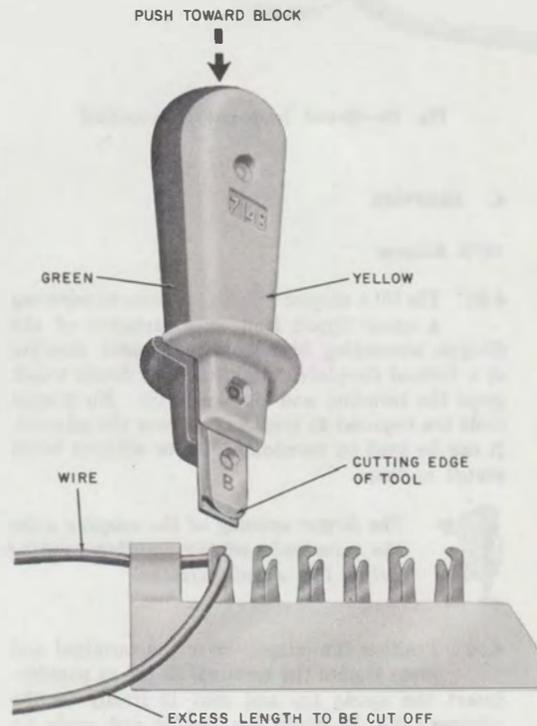

Fig. 9—Preparation for Making Ended Termination
3.07 To make an ended termination (Fig. 9 and 10) using the 714B or D impact tool, observe the following procedure.
- (a) Perform Steps (1), (2), and (3) of 3.05.